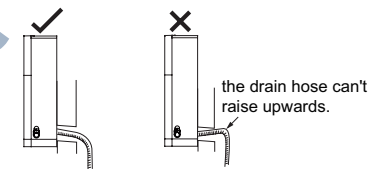

Fig.25
1. The through-wall height of drain hose shouldn't be higher than the outlet pipe hole of indoor unit.(As show in Fig.25)